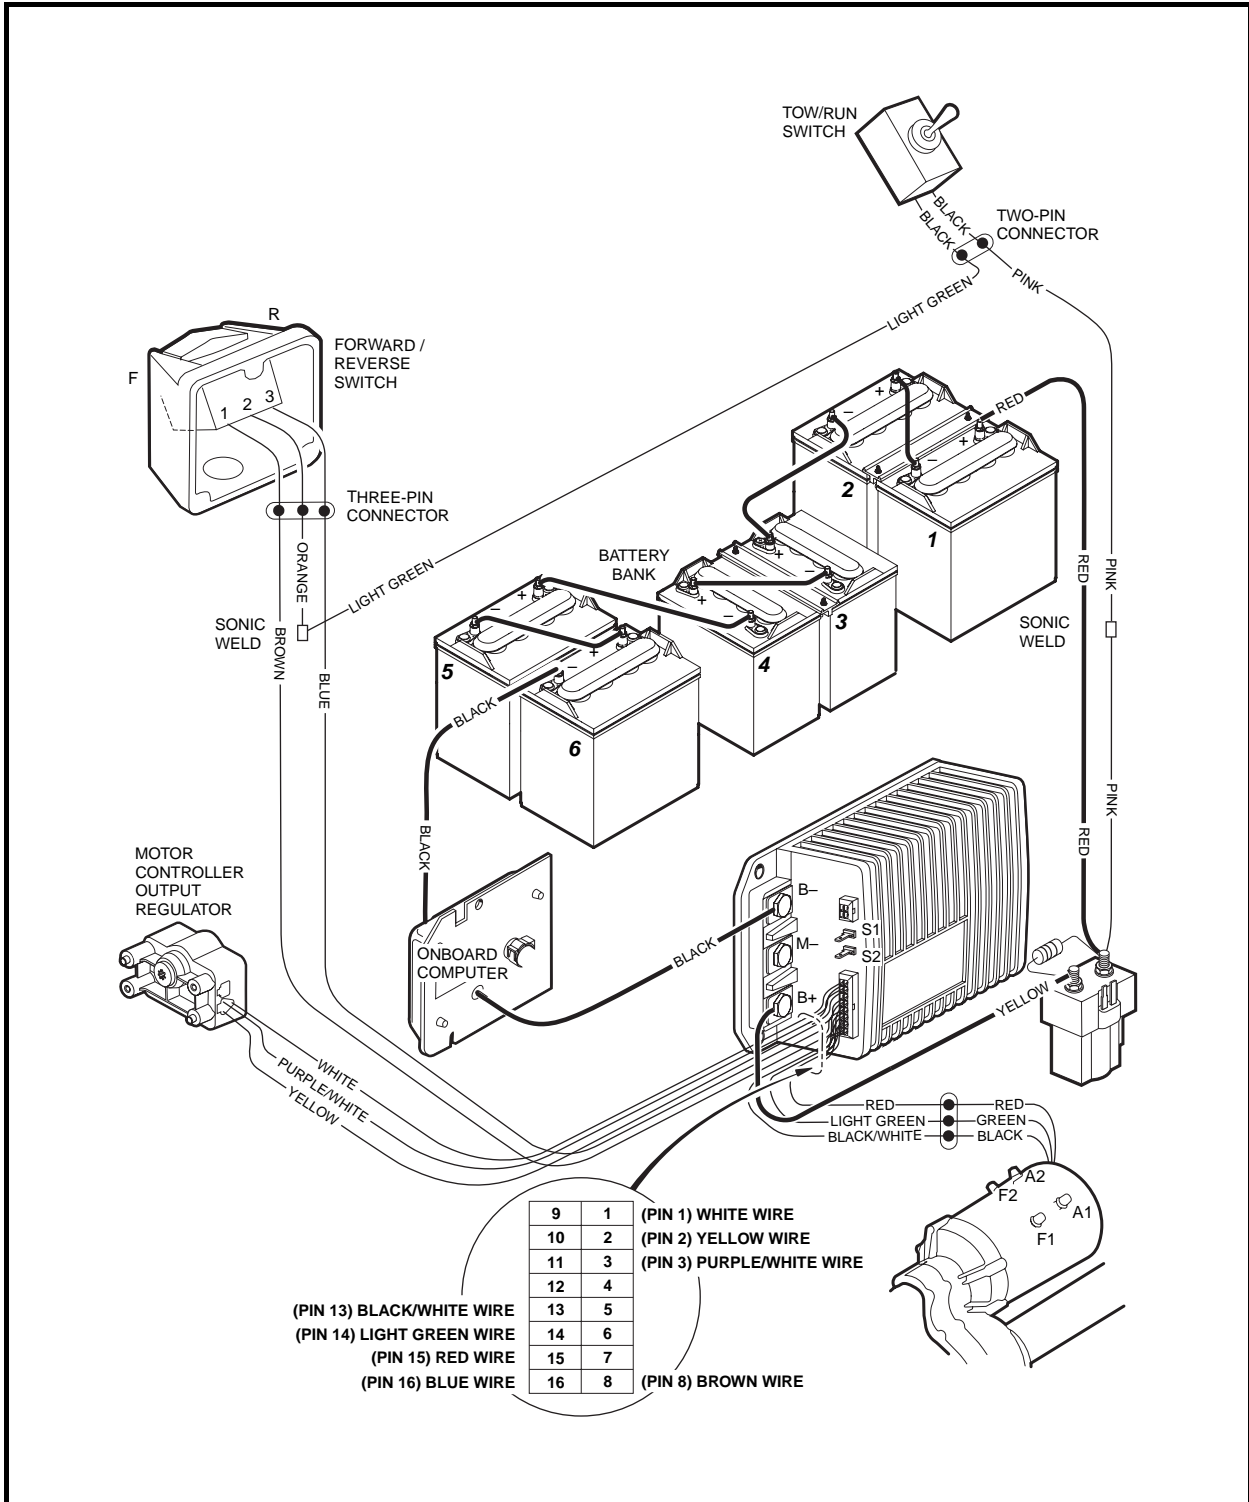

Figure 11-2 Solid State Speed Control Circuit
- Control circuit (**Figure 11-2, Page 11-5**)
- Solid state speed control circuit (**Figure 11-2, Page 11-5**)